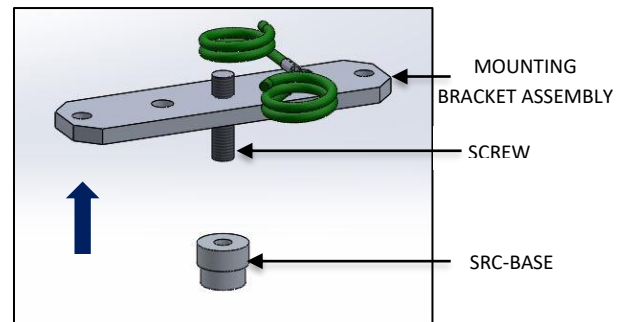

FIG. 13 -SRC-BASE INSTALLATION
10. Assemble the SRC BASE to the SCREW (Available in mounting bracket assembly) as shown below in FIG.13.